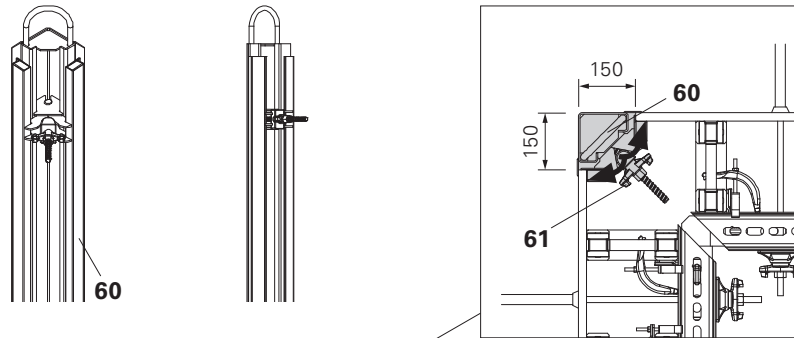

Fig. C3.02
1. Position internal panels and install Quick Release Corner SSE (60) in the corner.
2. Tighten wingnuts (61) on the SSE. The formlining is then fixed. (Fig. C3.02)